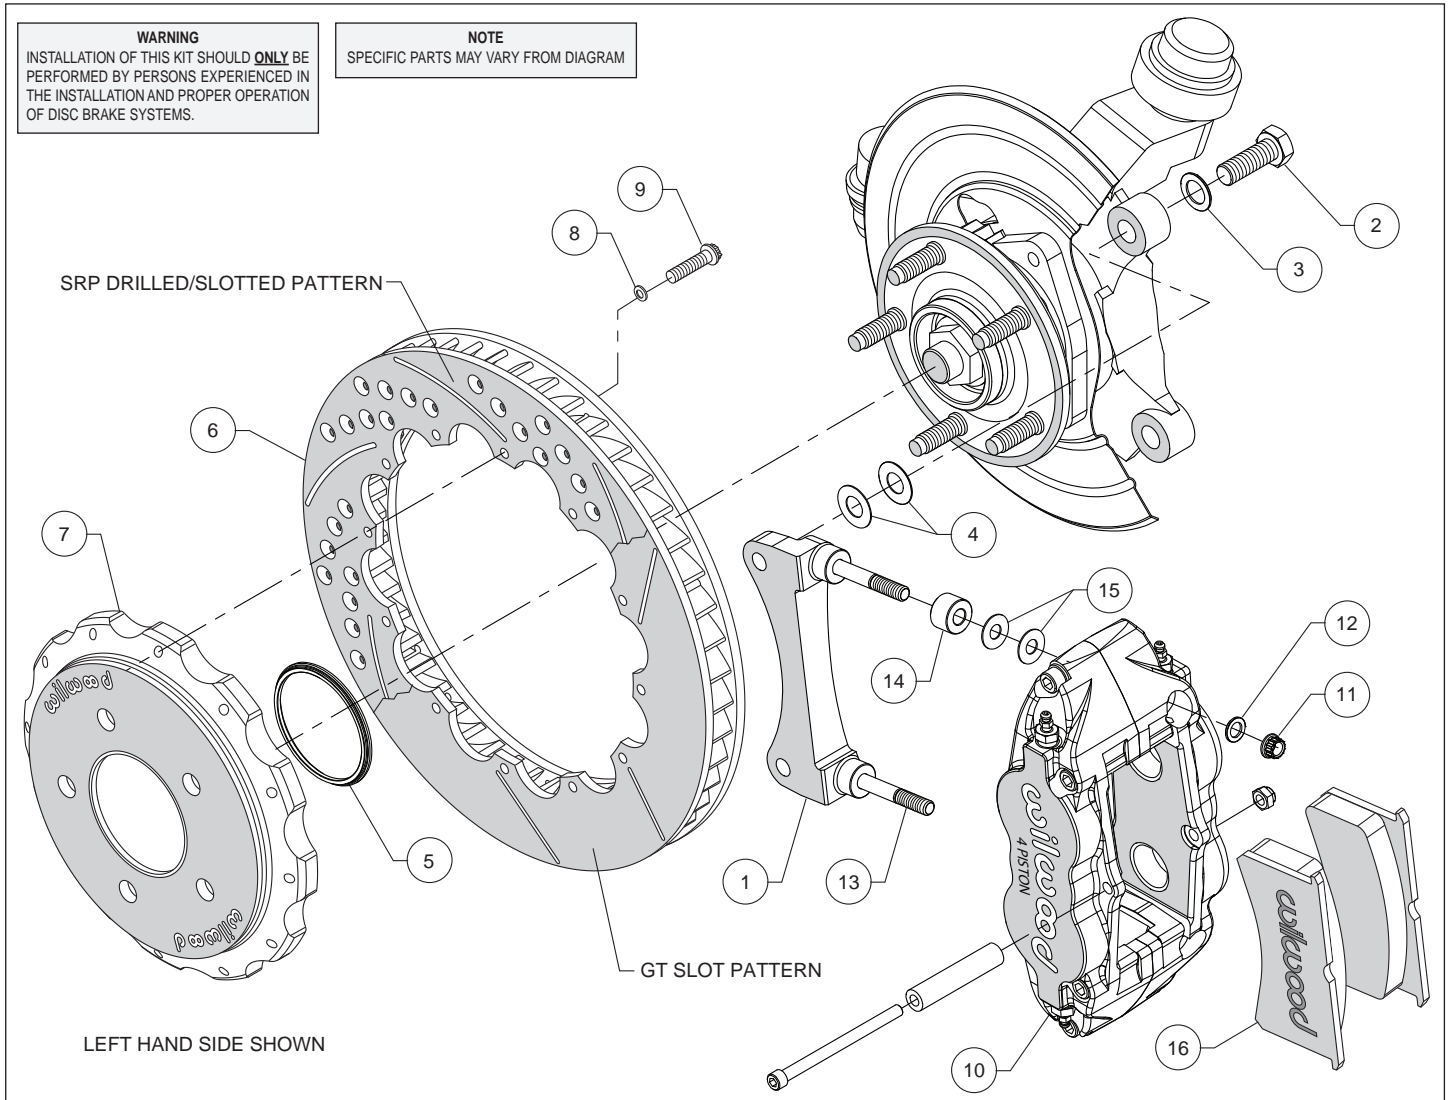
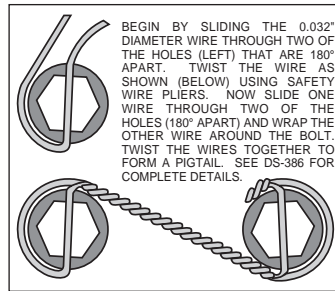

Figure 1. Typical Installation Configuration
Figure 3. Safety Wire Diagram
Assembly Instructions (numbers in parenthesis refer to the parts list and Figure 1 on the preceding pages):
- The caliper mount bracket (1) should initially be installed with clean, dry threads on the mounting bolts. Orient the bracket as shown in Figure 1 and Photo 1 and install using mount bolts (2) and washers (3). Initially place two .029" thick shims (4) on each bolt between the bracket and upright, Figure 1. Temporarily tighten the mounting bolts. **NOTE:** *The bracket must fit squarely against the mount bosses on the upright.* Inspect for interference from casting irregularities, machining ridges, burrs, etc. Later, after the caliper alignment has been checked, the mount bolts will be secured using red *Loctite*® 271.
- Orient the rotor (6) and the hat (7) as shown in Figure 1 and Photo 2. Attach rotor to hat using bolts (9) and washers (8). Using an alternating sequence, apply red *Loctite*® 271 to the threads, and torque to 155 **in-lbs**. For an added measure of security, the bolts may be safety wired using standard 0.032 inch diameter stainless steel safety wire as shown in Figure 3.
- Lubricate the caliper mounting studs (13) with lightweight oil. Initially place two .035" thick shims (15) and one spacer (14) on each stud as shown in Figure 1 and Photo 7. Mount the caliper (10) onto the bracket (1) using lock nuts (11) and washers (12), Figure 1. Temporarily tighten the lock nuts and view the rotor through the top opening of the caliper. The rotor should be centered in the caliper, Photo 8. If not, adjust by adding or subtracting shims (4) between the bracket and the upright. Always use the same amount of shims on each of the two mounting bolts. Once the caliper alignment is correct, remove the bracket mounting bolts one at a time, apply red *Loctite*® 271 to the threads, and torque to 75 ft-lb.